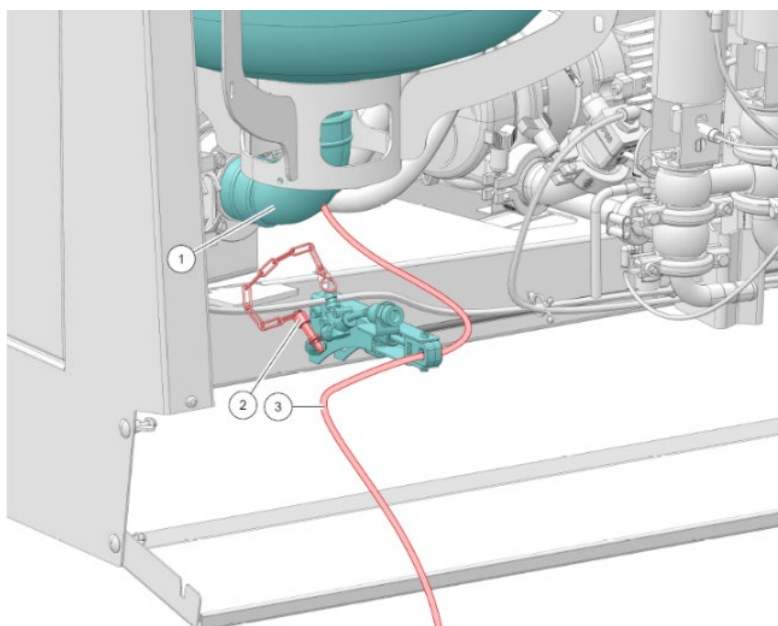

Figure 30. For the Astronaut A5 milking robot , version 1
- Connect the milk tube to an Astronaut A5 milking robot; pass the milk tube through hole, remove stop nipple 2, put the nipple and connect the milk tube 3 to the elbow 1, or base under receiver see the figure 30 and 30.1